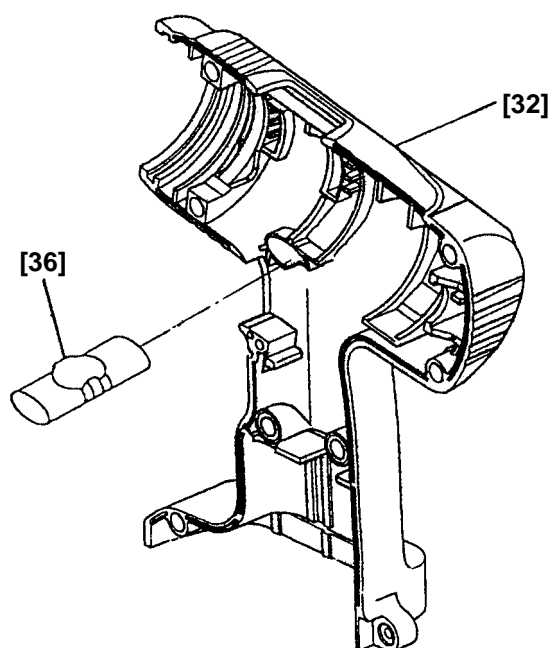

Fig. 12
(4) Installation of the assembly reassembled in step (3) into Housing (A). (B) Set **[32]**
(a) Install the Pushing Button **[36]** into Housing (B) **[32]**. (See Fig. 12.)